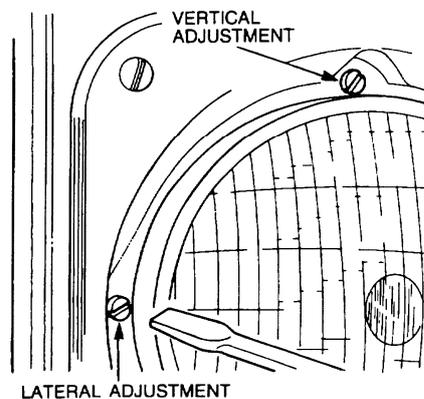

Figure 180 Headlight Beam Adjustment
- d. Adjust the lateral and vertical screws (Figure 180), until the area of concentrated light corresponds with the pattern on the board i.e. approximately 76 mm (3 in) below the centre line of the corresponding headlight.